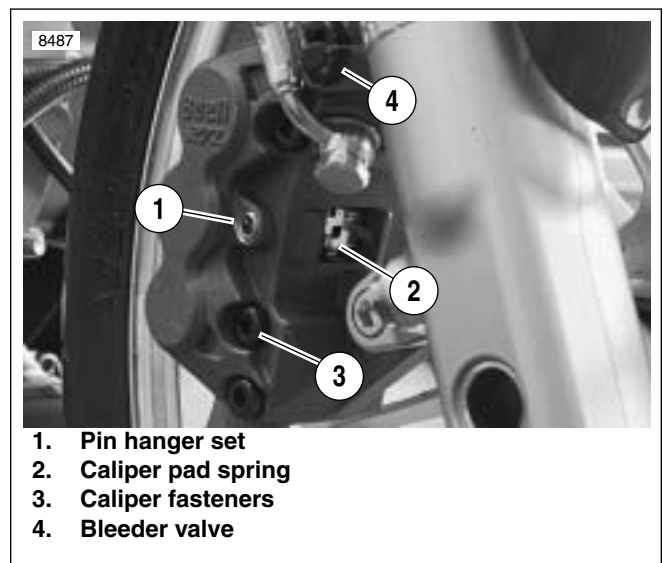

Figure 2-48. Pad Spring (Typical)
1. See Figure 2-48. Remove pin hanger set (1), brake pads and caliper pad spring (2).
2. Split caliper by removing caliper fasteners (3).